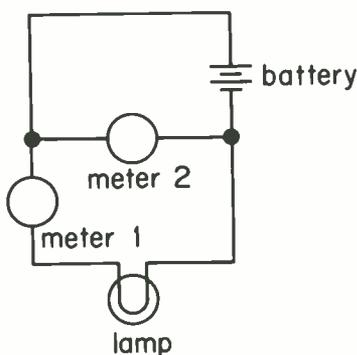

Fig. 11
2. Based on how the meters are connected in the circuit in Fig. 11, meter 1 should have the letter (*A*) (*V*) inside the circle and meter 2 should have the letter (*A*) (*V*).